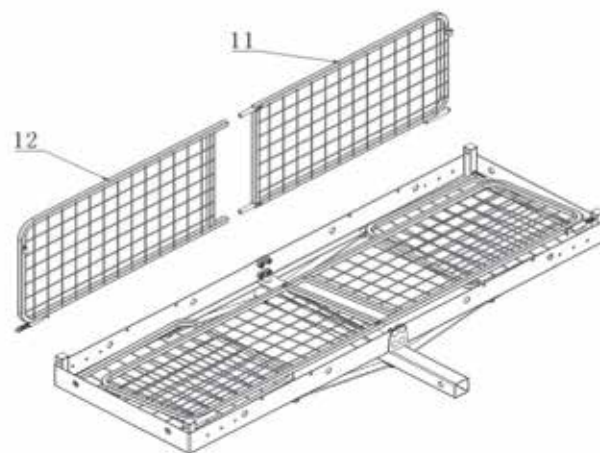

FIG. 6
Step 7. Insert the back left and right fences (11, 12) together, and assemble them on the corner fixtures of the supporting frames (1). For ease of assembly, place with the fencing inside. See Fig. 6.